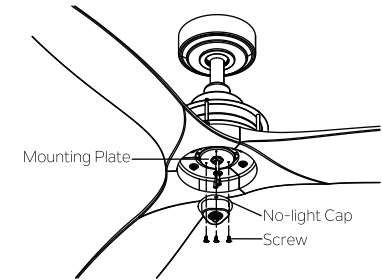

Fig. 19
Step 2. Attach the no-light cap to mounting plate with three mounting plate screws removed in previous step and securely tighten them. (Fig.19)